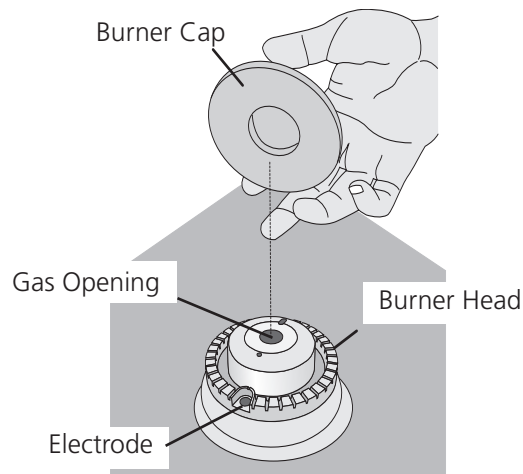

Figure 13
- B. **Regular Burners:** Burner heads and burner caps are already on the surface. Remove all tapes from burner caps and verify if they are correctly placed on the burner heads (see Figure 13).